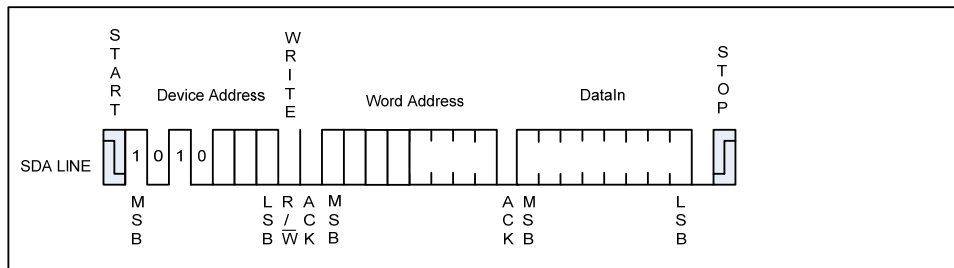

Figure5 Byte Write
**BYTE WRITE:** A write operation requires one 8-bit data word address following the device address word and acknowledgment. Upon receipt of this address, the BM24C04E will again respond with a "0" and then clock in the first 8-bit data word. Following receipt of the 8-bit data word, the BM24C04E will output a "0" and the addressing device, such as a microcontroller, must terminate the write sequence with a stop condition. At this time the EEPROM enters an internally timed write cycle, to the nonvolatile memory. All inputs are disabled during this write cycle and the EEPROM will not respond until the write is complete (see Figure 5).